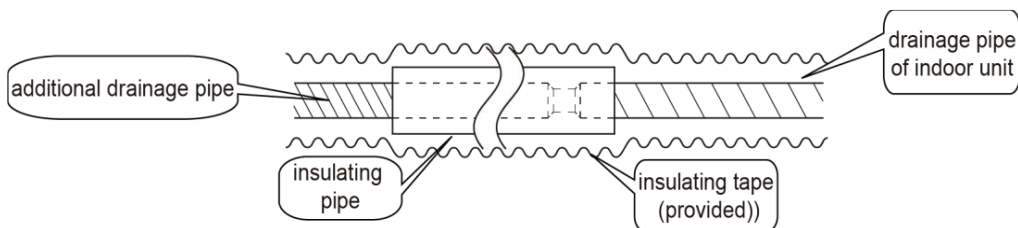

Fig 9.3.1
(1) The drainage pipe should be short and the gradient downwards should be at least 1%~2% in order to drain condensation water smoothly.
(2) The diameter of drainage hose should be bigger or equal to the diameter of drainage pipe joint.
(3) Install drainage pipe according to the following fig and arrange insulation to the drainage pipe (Fig 9.3.1). Improper installation may lead to water leakage and damp the furniture and other things in the room.
(4) You can buy normal hard PVC pipe used as the drainage pipe. During connection, insert the end of PVC pipe into the drainage hole and then tighten it with drainage hole and wire binder. Can't connect the drainage hole and drainage hole with glue.
(5) When the drainage pipelines are used for several units, the position of pipeline should be about 100mm(4in) . lower than the drainage port of each unit. In this case, thicker pipes should be applied.